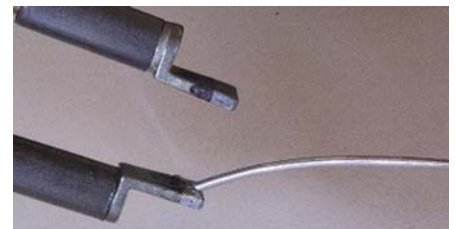

Figure 2 Tin Tips with Solder.
6. Tin the bottom and inside edges of tweezers tips with solder. (See Figure 2.)